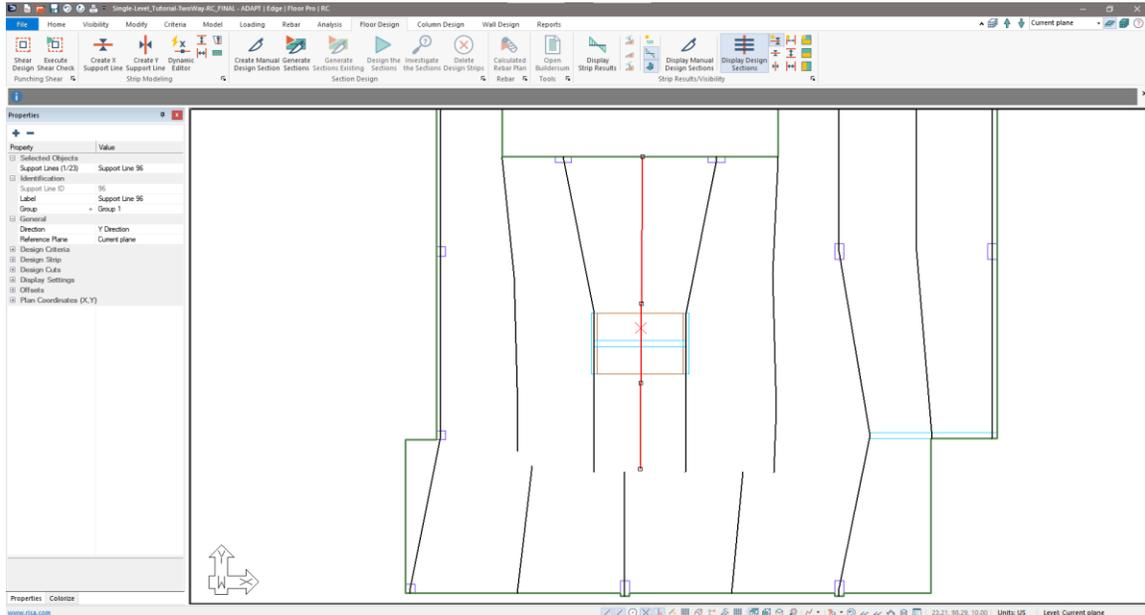

Figure 6-34
- Left-click on the support line to select it. The user's screen should now look similar to **FIGURE 6-34**.